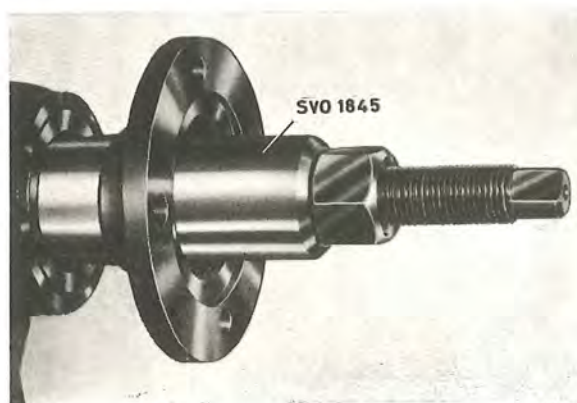

Fig. 4-15. Fitting the flange
4. Press on the flange with tool SVO 1845, see Fig. 4-15. Fit the other parts.